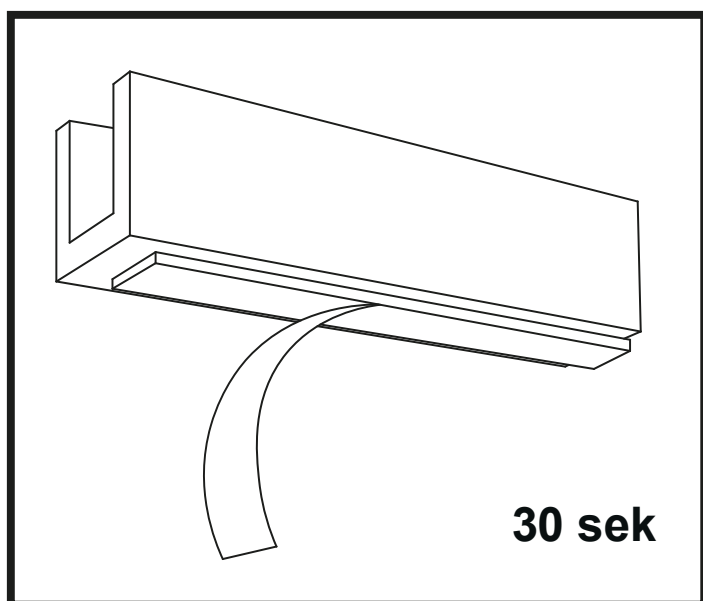

Figure 5
14. Remove the backing film from the double-sided tape on the profile and place the profile on the floor in the marked location. Press the lath firmly, holding the pressure for about 30 seconds. (Figure 5)